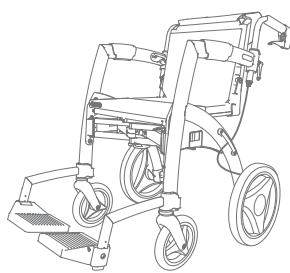

Figure 40: The electric wheelchair is ready to use.
- f. The electric wheelchair is now ready for use (**Figure 40**).